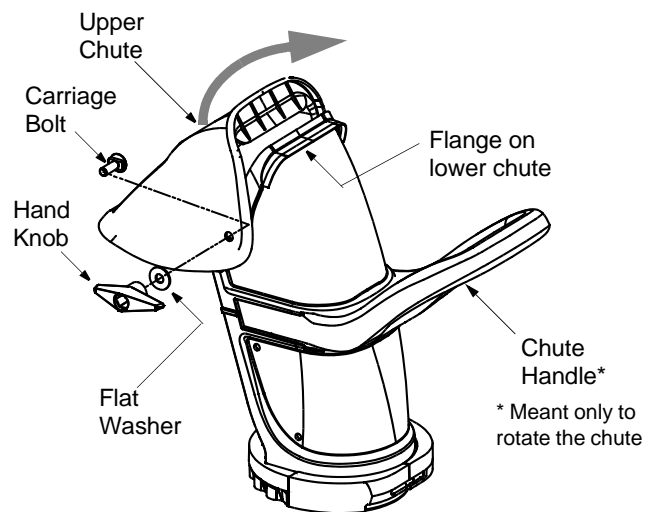

Figure 2
- Loosen the hand knob on the left side of the upper chute. See Figure 2.
- Raise the upper chute up and over the flange on the lower chute. Follow the direction of the arrow in Figure 2 to place it in the operating position.
- Tighten the hand knob back making sure the flat washer and carriage bolt are correctly positioned. See Figure 2.